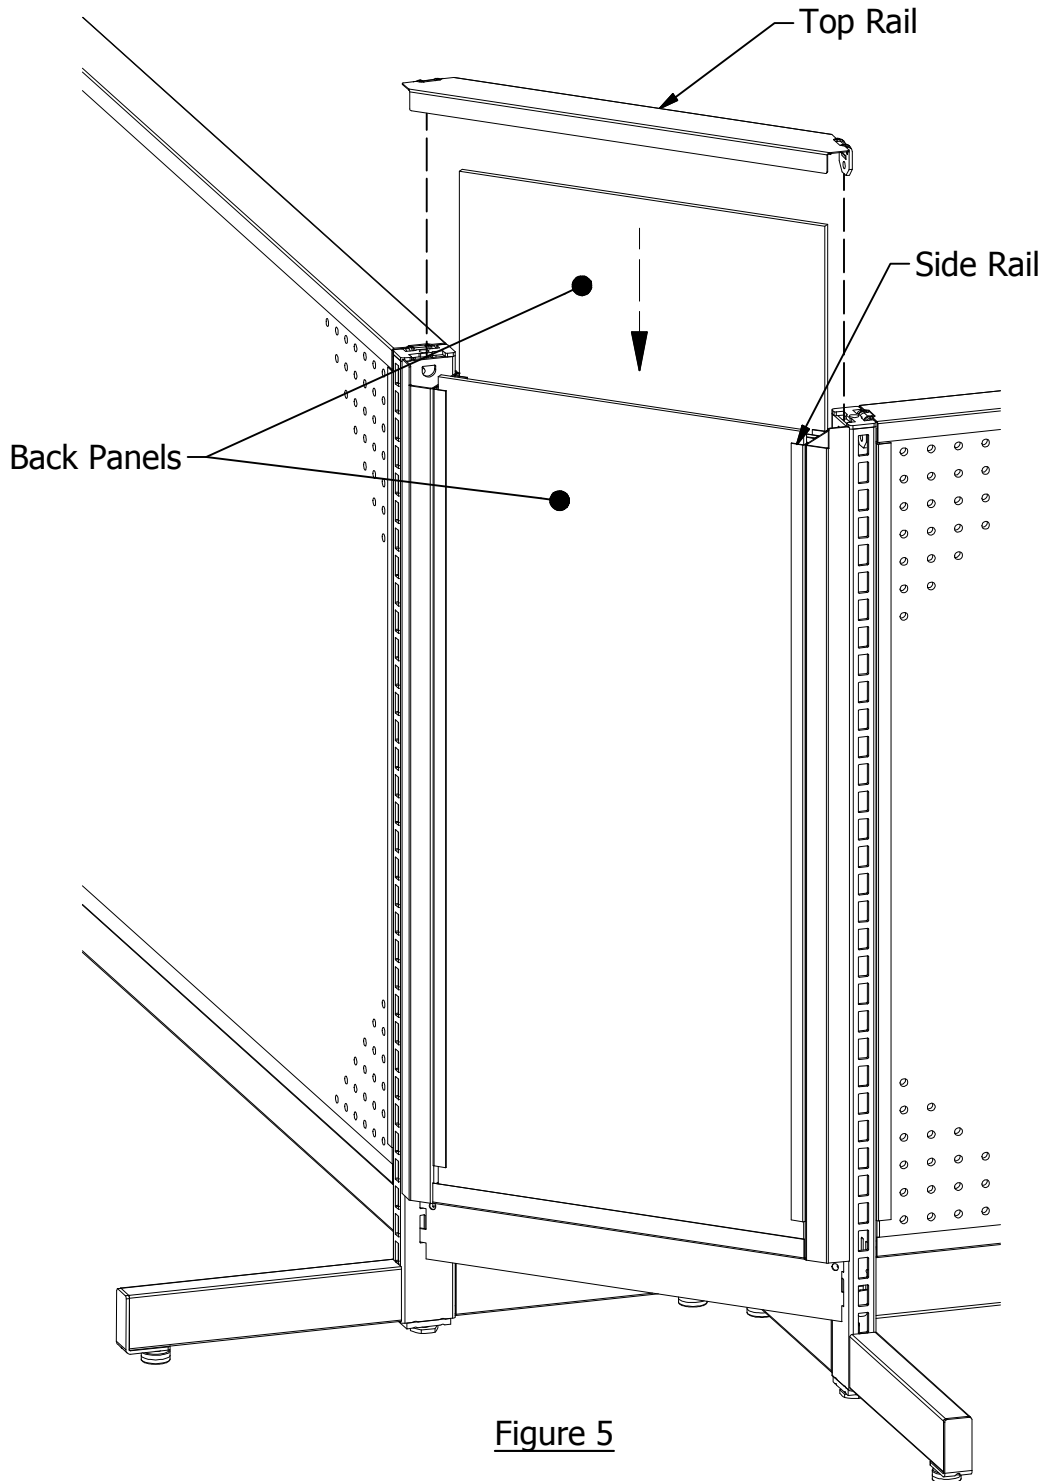

Figure 5
STEP 6: Slide Back Panels into Side Rail channels from above. Install Top Rail, ensuring that it is fully seated in the Uprites. (See Figure 5)